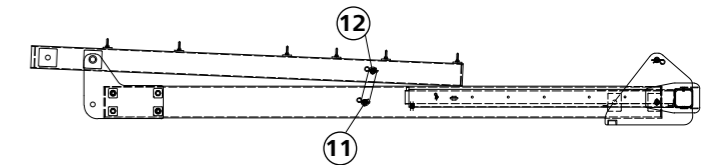

Fig. 3 As-received condition
- (A) Fixed attachment point
- (A) and (B) Forks are horizontal (without additional load)
- (B), (C), (D), (E) or (F) Selection of the attachment point according to the centre of gravity of the overall system (Fig. 3)